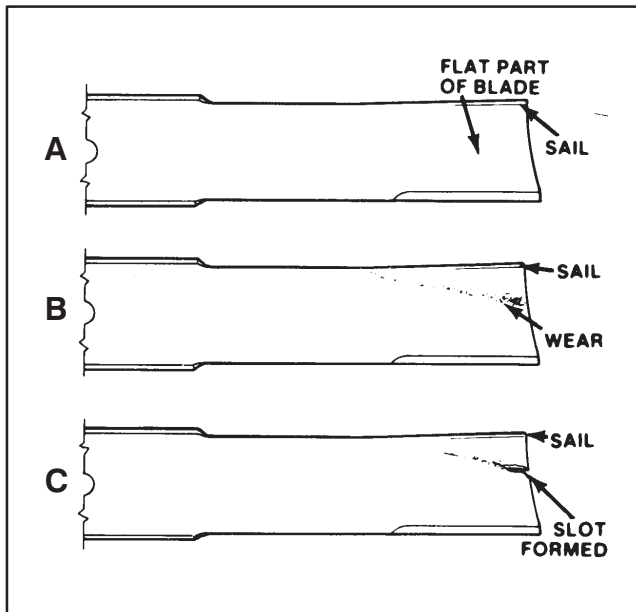

Figure 30
CHECKING SAIL AND SHARPENING CUTTER BLADE (Fig. 30–31)
2. Examine cutting ends of the blade carefully, especially where the flat and curved parts of the blade meet (Fig. 30–A). Since sand and abrasive material can wear away the metal that connects the flat and curved parts of the blade, check the blade before using the mower. If wear is noticed (Fig. 30–B), replace the blade.
If blade is allowed to wear, a slot will form between the sail and flat part of the blade (Fig. 30–C). Eventually a piece of the blade may break off and be thrown from under the housing, possibly resulting in serious injury to yourself or bystanders.